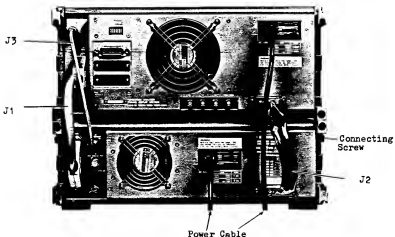

Fig. 2-2 Power and signal connections on the rear panels
- ① Make sure that the POWER switch on the RF section is in the STANDBY (out) position.
- ② An AC LINE connector is provided on the rear panel of each section. Plug the female side of the supplied power cables into each of these AC LINE connectors. (See Figure 2-2.)